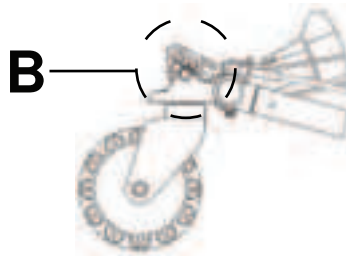

Figure 12 – Steer-Lock on
To apply **Steer-Lock** (B), press the red pedal down and toward the middle of the cot X-frame (Figure 12).